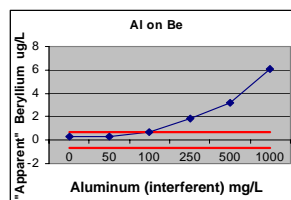

Figure 2. Apparent signal enhancement of beryllium with increasing aluminum.
Figure 2 is a set of data demonstrating the apparent enhancement of signal for beryllium with increasing concentrations of aluminum. The parallel bars indicate concentration levels equal to plus (+) and minus (-) the limit of detection (LOD) for beryllium. Note that if the determination were made with only a 50- or 100-ppm aluminum standard, the conclusion might be that this analyte represents situation (A), or no apparent interference effect.